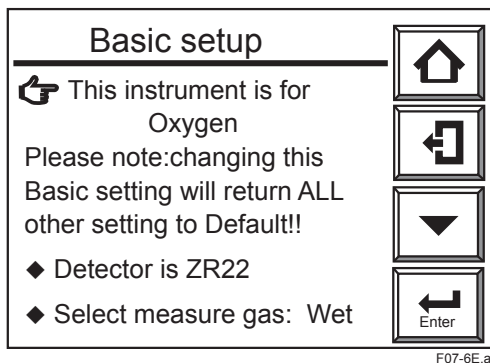

Figure 7.6 “Basic Setup” Display
- (5) The Basic setup display shown in Figure 7.6 then appears. Confirm the currently set converter type. If the Humidity Analyzer option /HS was selected at the time of purchase, the converter was set for high temperature humidity use before shipment.
Check that the detector in Figure 7.6 is the one for this equipment.
Combustion gases contain moisture created by burning hydrogen in the fuel. If this moisture is removed, the oxygen concentration might be higher than before. You can select whether the oxygen concentration in a wet gas is to be measured directly, or compensated for its dry-gas value before use. Select the “Select measure gas: Wet” in Figure 7.6 to select either wet or dry gas.